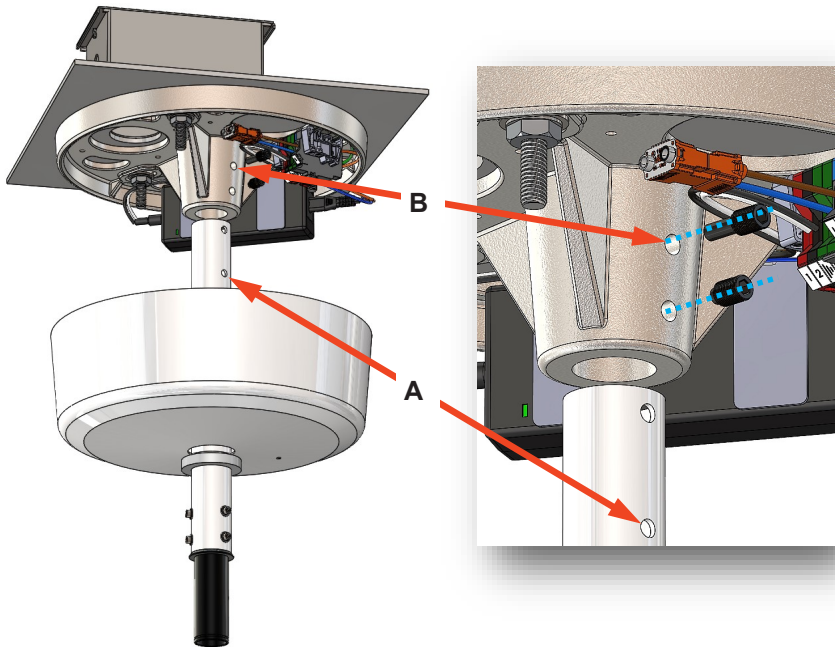

Figure 33A: Ceiling casting to down tube assembly.
Assemble the down tube by sliding it up center hole in the ceiling casting. Position the tube so that the lower hole (A) in the down tube is aligned with upper hole (B) of the ceiling casting. Use thread locker (Loctite or similar) on screws to prevent them from becoming loose. First fasten the upper set screw, which is a dog point screw. Make sure it fully engages the hole of the down tube. Next fasten lower set screw, refer to Figure 33A.